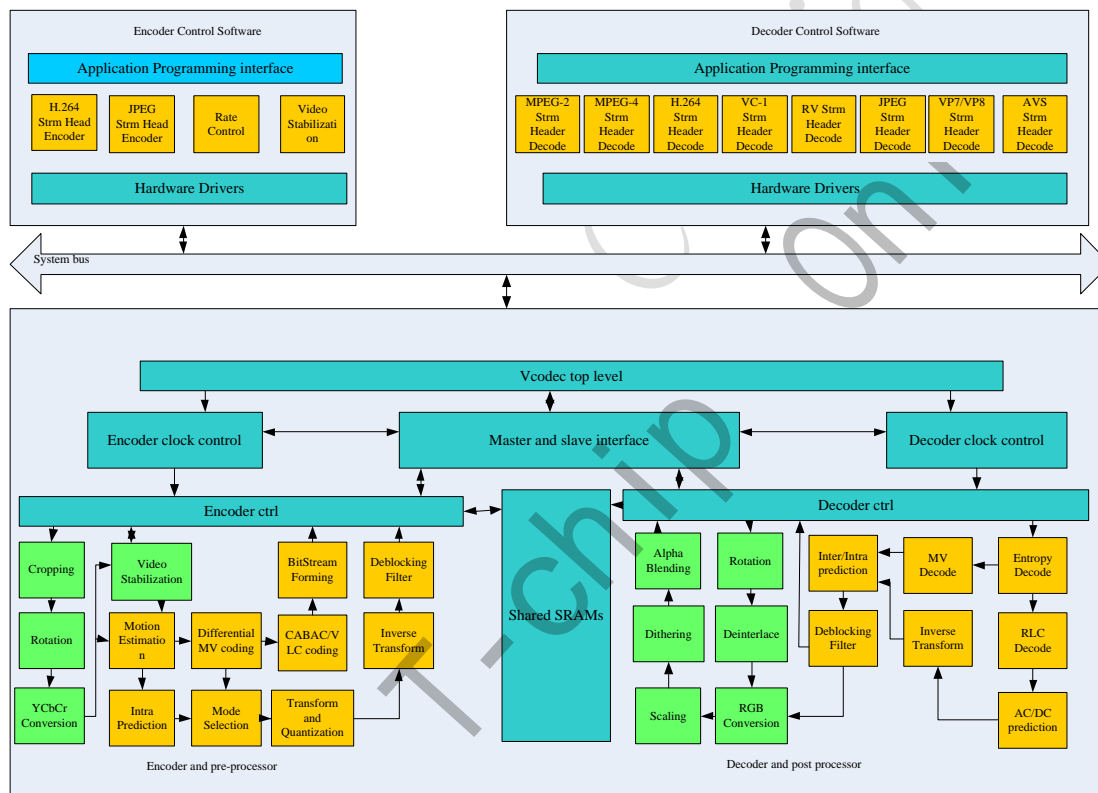

Fig. 25-1 VCODEC block diagram
The block diagram of VCODEC is shown as Fig. 25-1. The lower big box is the VCODEC hardware (HW) implementation. The left part of the lower big box is encoder and pre-processor. The green boxes in it present pre-processor part and video stabilization part while the yellow boxes in it present encoder part. Pre-processor is pipelined with the encoder and it can only be used with the encoder. Video stabilization detects and compensates undesired jitter effect on the video while the desired effects like panning are maintained. Video stabilization can be used pipelined with video encoding or in standalone mode when video encoding is disabled. Video stabilization can detect scene changes in the video sequence. Key frames are encoded when a scene change is detected. This will help improve the encoding